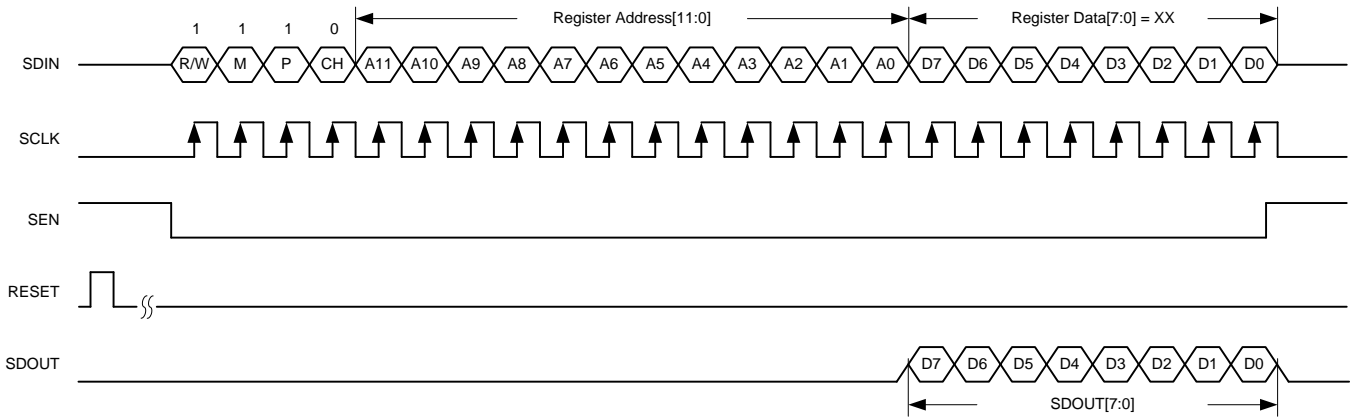

Figure 70. JESD Serial Register Read Timing Diagram
4. Reading back the register content on the SDO pin; see Figure 70. When a page is selected, multiple read backs from the same page can be done.